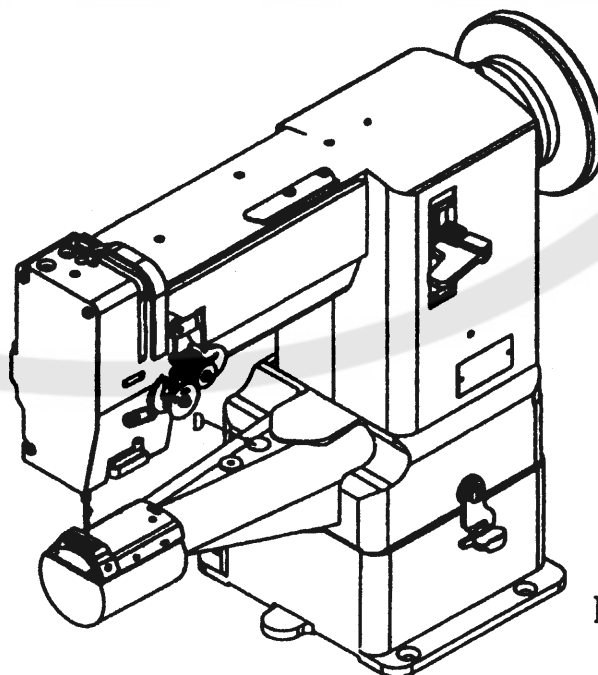

Fig.12
14. RE-SET THE SAFETY CLUTCH MECGANISM: (Fig. 12)